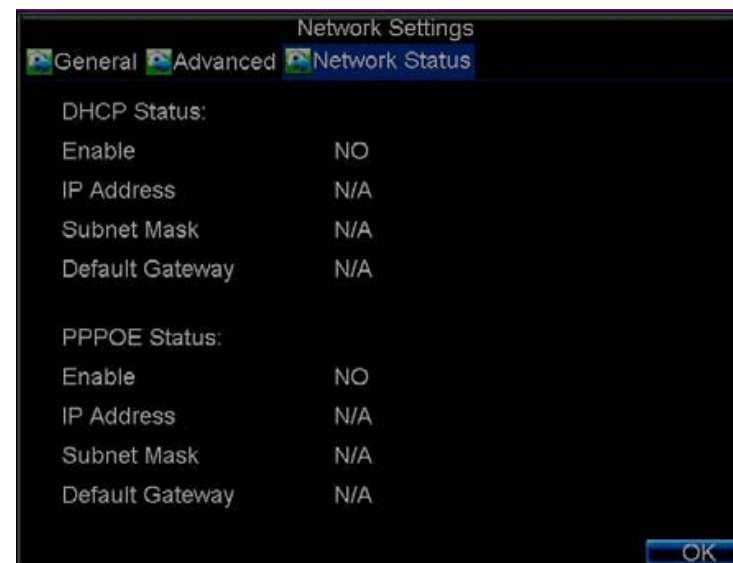

Figure 10.2. Network Status
- 3) If you have a DHCP server running and would like your DVR to automatically obtain an IP address and other network settings from that server, check the **DHCP** checkbox. You may check the DHCP status by going to the **Network Status** tab, as shown in Figure 10.2.